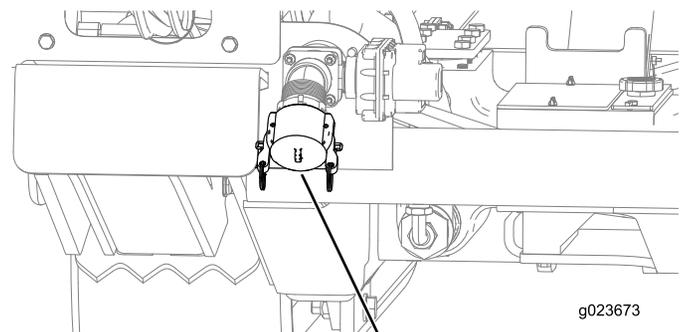

Figure 125
- B. Ensure that the cap is installed on the drilling-fluid pump inlet (Figure 125).